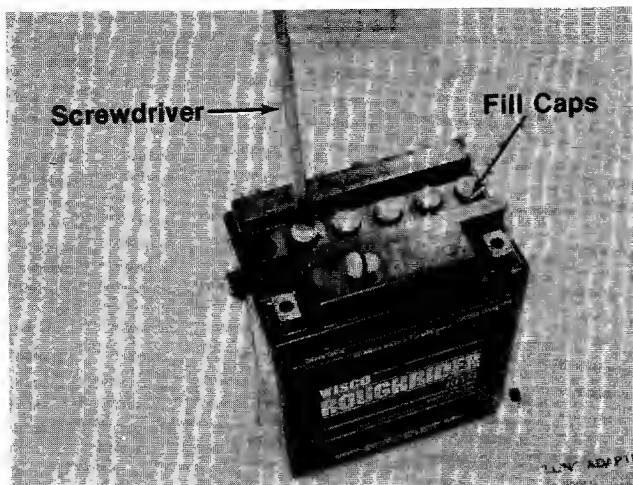

FIGURE 4.
4. Remove the six fill caps from the top of the battery with a screwdriver. Care should be taken not to damage the fill caps. See figure 4.